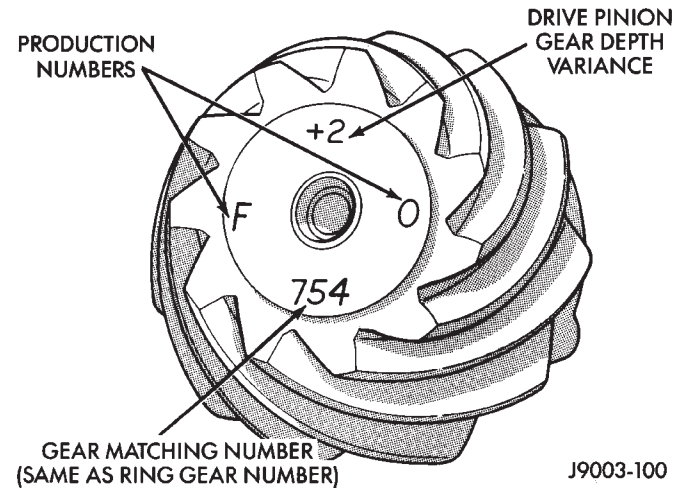

Fig. 67 Pinion Gear ID Numbers
Ring and pinion gears are supplied as matched sets only. The identifying numbers for the ring and pinion gear are marked on the face of each gear (Fig. 67). A plus (+) number, minus (-) number or zero (0) is marked on the face of the pinion gear. This number is the amount (in thousandths of an inch) the depth varies from the standard depth setting of a pinion marked with a (0). The standard depth provides the best teeth contact pattern. Refer to Backlash and Contact Pattern Analysis Paragraph in this section for additional information.
(25) Select a shim equal to the shim selected above plus the drive pinion gear depth variance number marked on the face of the pinion gear (Fig. 67) using the opposite sign on the variance number. For example, if the depth variance is -2, add +0.002 in. to the dial indicator reading.